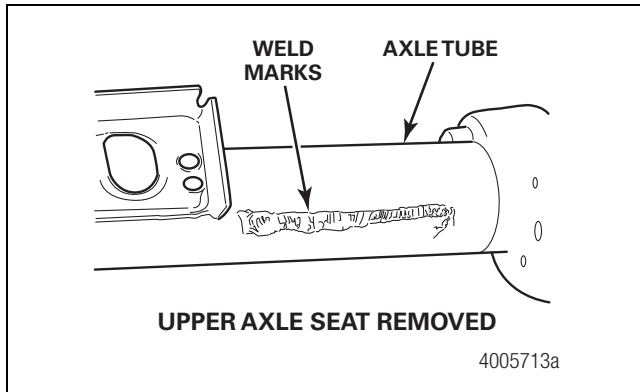

Figure 11
- Remove only the welds. Do not gouge the axle tube. Figure 11.